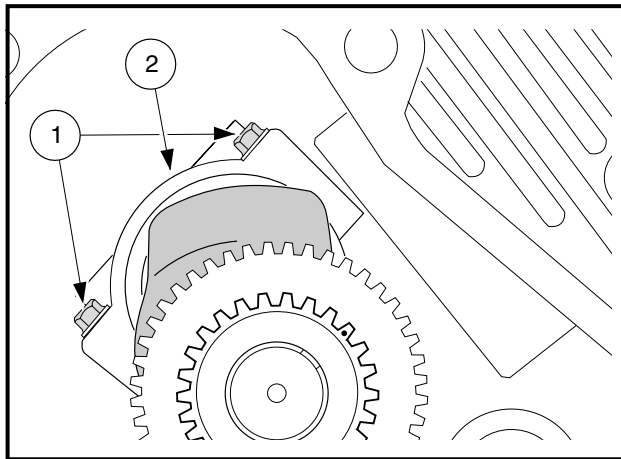

Figure 2-45 Connecting Rod Cap Bolts
1. Turn crankshaft to expose the two connecting rod cap bolts (1) (**Figure 2-45, Page 2-23**).
2. Loosen the cap bolts and take them out together with the connecting rod cap (2).